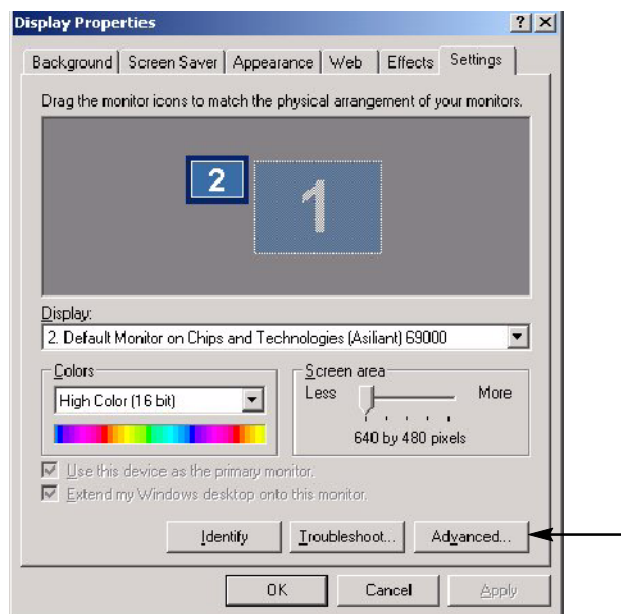

Figure 13: Advance button
4. Click the Advance button. See Figure 13.